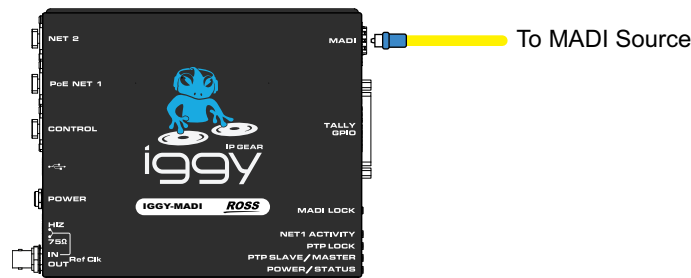

Figure 17 IGGY-MADI — MADI Port Connections
3. Cable your MADI module as required. (**Figure 17**)